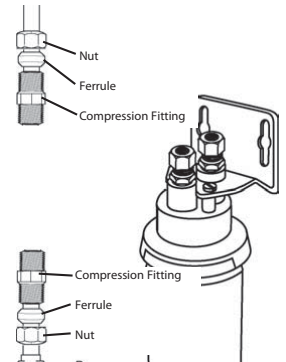

Figure 8
8. Two compression fittings are required for tube ends. Check tube size. Use 3/8" x 3/8", 1/2" x 3/8", or 5/8" x 3/8" compression fittings as required. Slip nut and ferrule on water tubing as shown and fasten fittings in place. (Figure 8)